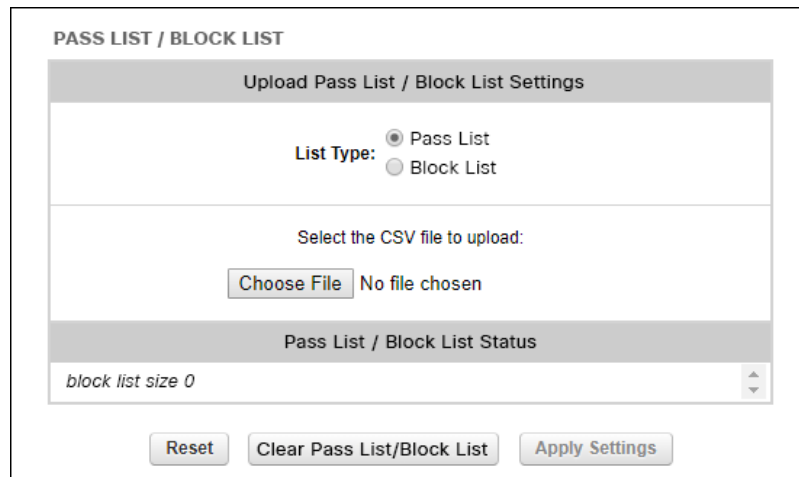

Figure 37. Configurator (Pass list / Block list dialog)
- The **Pass list / Block list** dialog will be shown (Figure 37 (page 96)).